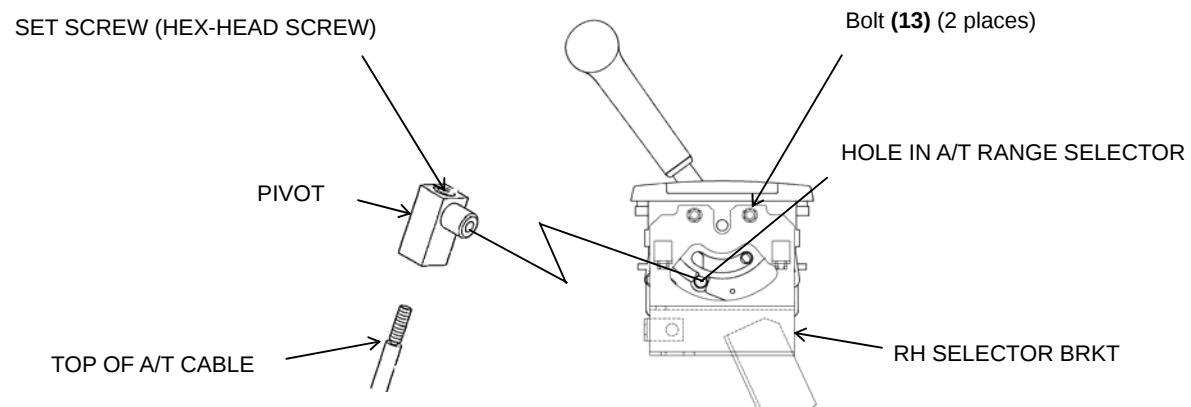

Fig 11. Installation of RH Bracket and A/T Cable. (Right side View)
3. Install Selector Bracket RH on the A/T Selector as shown in Figure 11.
3. As shown Figure 11, install the pivot **(7)** on the new A/T Shift Control Cable **(16)** and tighten the set screw when the pivot **(7)** aligns with the hole in the range selector **(3)** (the set screw should not protrude from the top surface of the pivot **(7)**).
4. Shift the Selector Lever into "L" Position and insert the pivot **(7)** into the Hole of the Lever from right side as shown in Figure 11